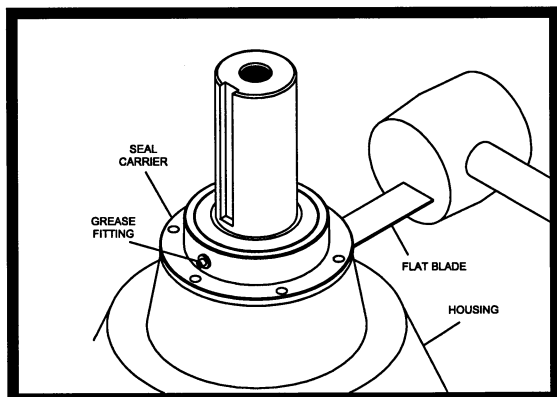

Figure 6.2.1 Separation of Seal Carrier From Hub
4. Using a flat blade and a hammer, break the seal between the seal carrier assembly and the input or output housing (reference Figure 6.2.1).